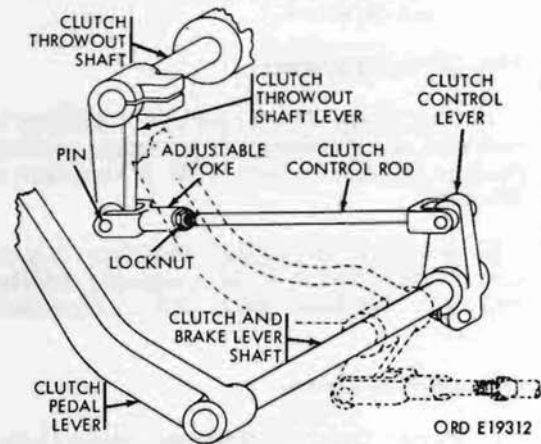

Figure 187. Clutch controls and linkage adjustment
a. Adjustment. Adjust the engine clutch controls and linkage as shown in figure 187. Loosen the locknut on the clutch control rod assembly and remove the pin connecting the
b. Removal (Fig. 187).
- (1) Loosen the screw securing the clutch pedal lever to the clutch and brake lever shaft and remove the clutch pedal lever.
- (2) Loosen the nut on the clamp securing the clutch throwout shaft lever to the clutch throwout shaft and remove the lever.
- (3) Loosen the nut on the screw securing the clutch control lever to clutch and brake lever shaft and remove the control lever and lever shaft.